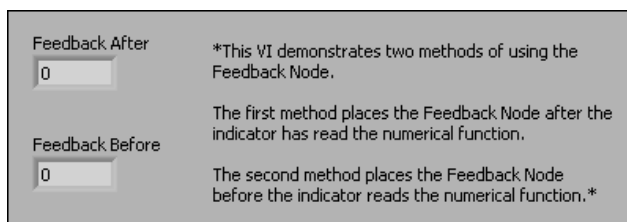

Figure 4.15
1. Open the Feedback VI located in the `C:\Exercises\LabVIEW Basics I` directory. The front panel shown in Figure 4.15 is already built.